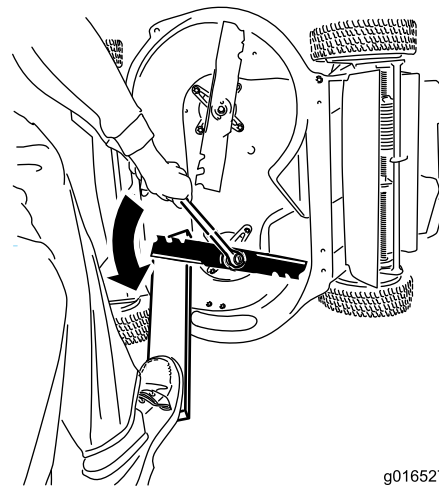

Figure 43
1. Use a block of wood to hold each blade steady and turn the blade bolt counterclockwise as shown in Figure 43.